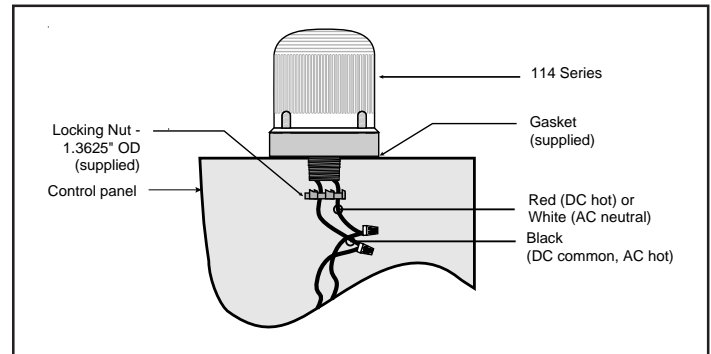

Figure 2. Panel Mounting
### Panel Mounting (Figure 2)
3. Using wire nuts (not supplied), connect the signal's wire leads as shown in Figure 2. Polarity must be observed.
**Panel Mounted Modules:** Disconnect wiring and remove locking nut securing the base to the panel (Figure 2).